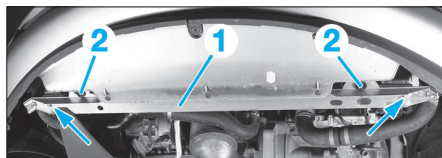

Fig. 43
- Desserrer (flèches) la traverse (1) (Fig.43),